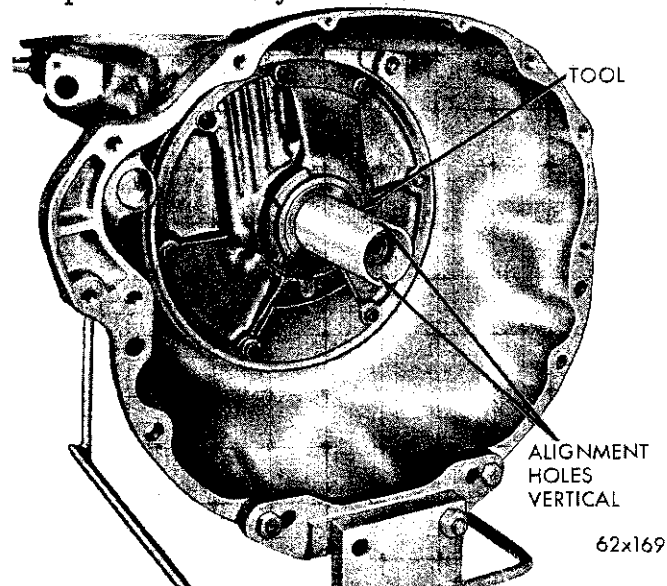

Fig. 46—Aligning Front Pump Rotors
(1) Rotate the front pump rotors with Tool C-3881 until the two small holes in the handle of Tool are vertical (Fig. 46).
(2) Carefully slide the converter assembly over the input shaft and reaction shaft. Make sure the converter impeller shaft slots are also vertical and fully engage the front pump inner rotor lugs.